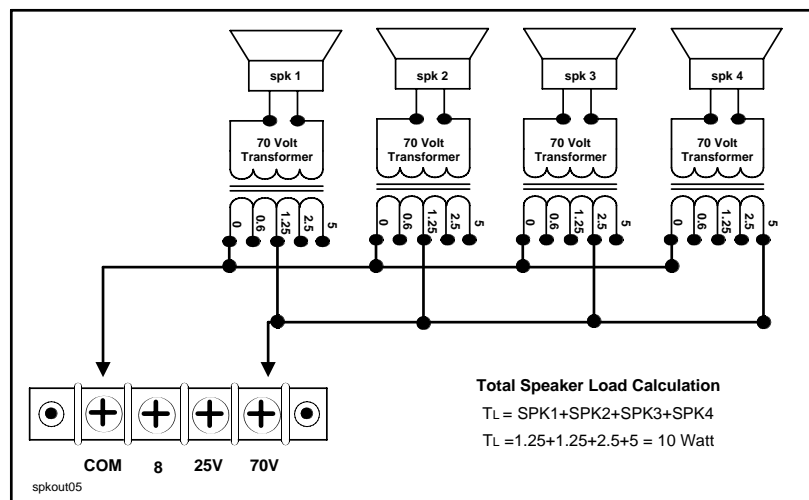

Fig. 11 - 70 Volt Constant Voltage System Diagram
- 3) Add all the speaker taps wattage (see Fig. 11) and be sure that the total power needed does not exceed the Rated RMS Power Output of the Amplifier